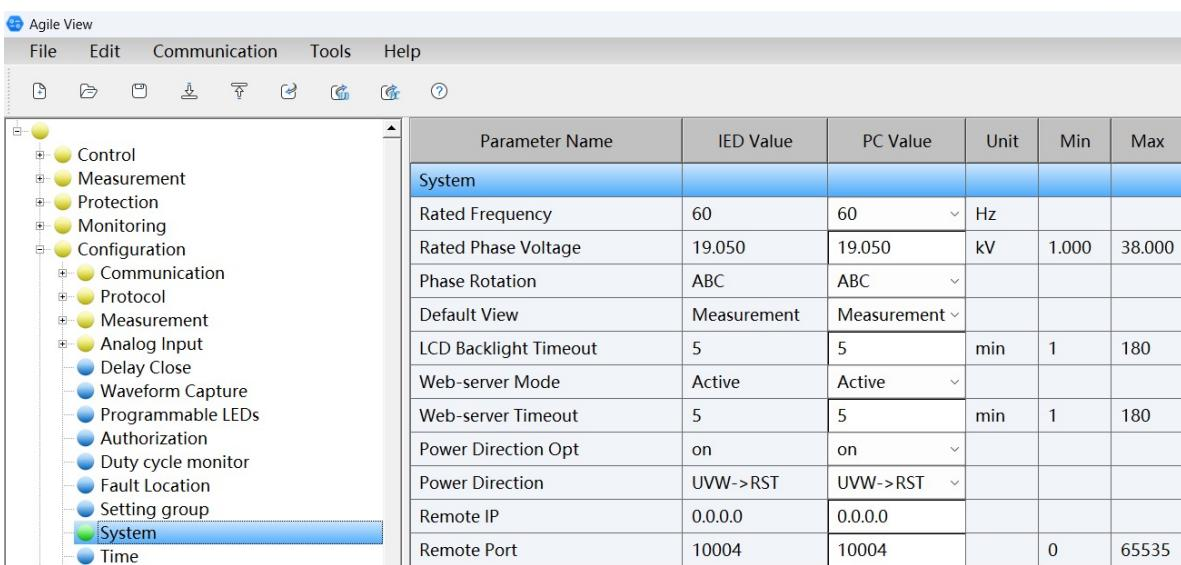

Figure 48 System settings on configuration tool
4. Click the "system" and parameter settings window will popup where it is possible to edit. (Figure 48)